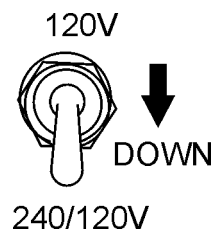

Figure 20. Full Power Switch 240/120 V Position (Down)
- Place the full power switch (Figure 20) in the 240V position (down).